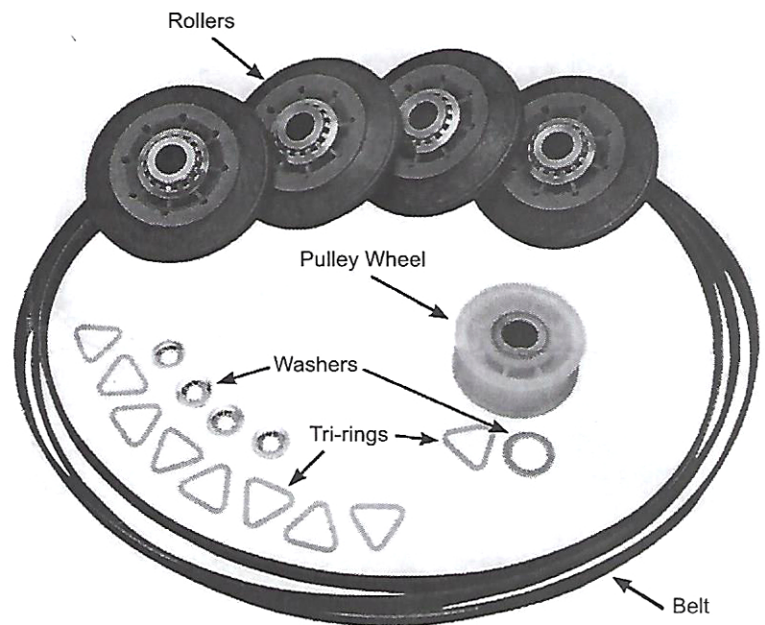

FIG. 2
13. Use a flat head screwdriver to remove the tri-ring from the pulley arm shaft, pull off old pulley wheel and washer. See Figure 2.